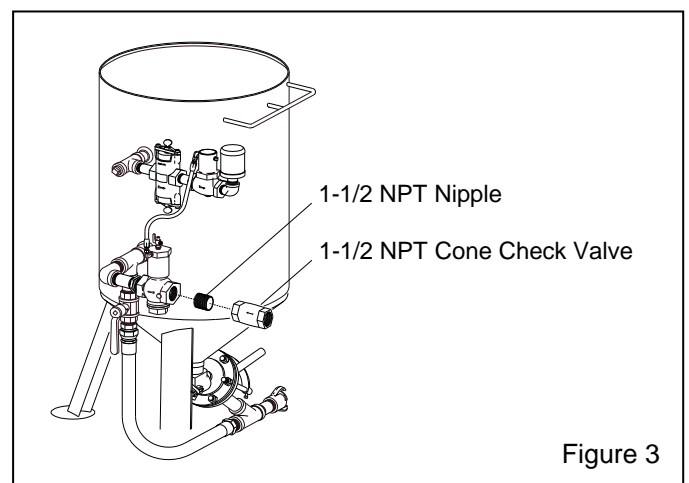

Figure 3
**2.3.1** Where multiple blast machines are operating from a single air source, install a check valve at the air supply on each machine. The illustration in Figure 3 is the easiest method to install a cone check valve on a blast machine.